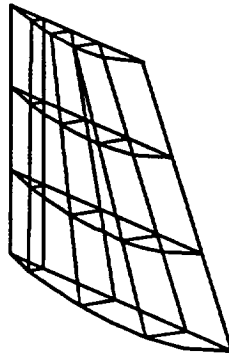

FIGURE C.12. Structural model of vertical tail after rotation.
22. Enter PACKAGING mode and rotate the structural model 90 degrees about the X-axis. (See fig. C.12.)